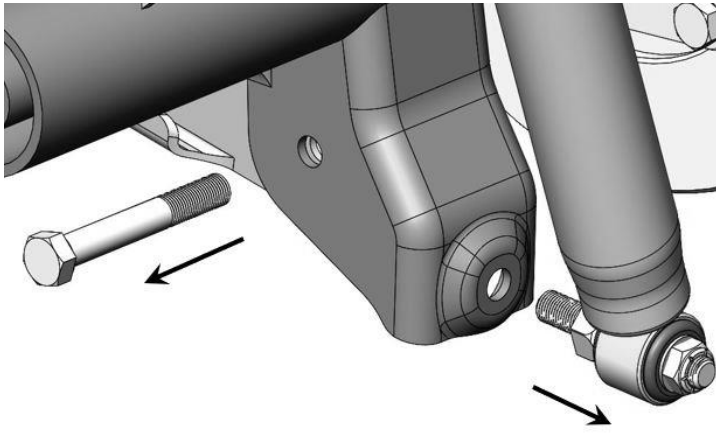
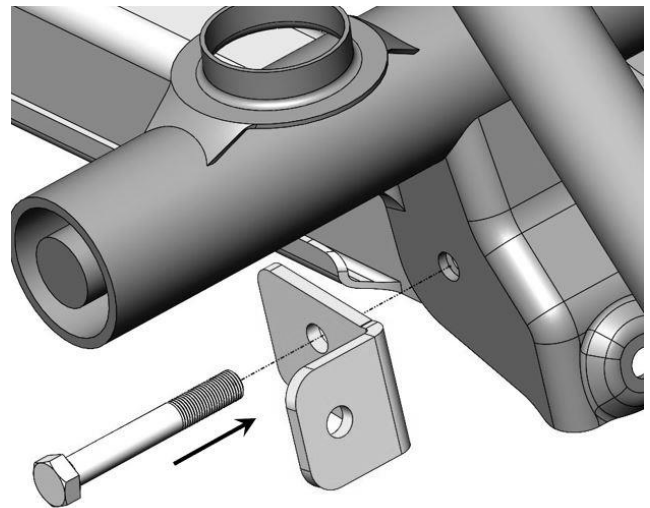

Figure 8a – Control Arm Bolt Removal & Shock Mount Removal
Figure 8b – Shock Relocation Bracket Installation (Right Side Shown)
12. Before you install the Caliper Body, it is necessary to relocate the bottom shock mounting locations inward with the provided Shock Relocation Brackets. Remove the Lower Control Arm Bolt where it attaches to the axle housing. Also remove the nut holding the lower shock mount to the axle housing. Refer to Figure 8a on the next page for reference. Reinstall the Lower Control Arm Bolt back through axle housing and also through the supplied Shock Relocation Bracket. **Do Not** tighten at this time, it will be tightened in a later step. Refer to Figure 8b on the next page for reference. **IMPORTANT:** Each Shock Relocation Bracket is side specific. The shocks will be relocated inward on the car. There is a “R” and “L” stamped with the part number on each bracket for reference.